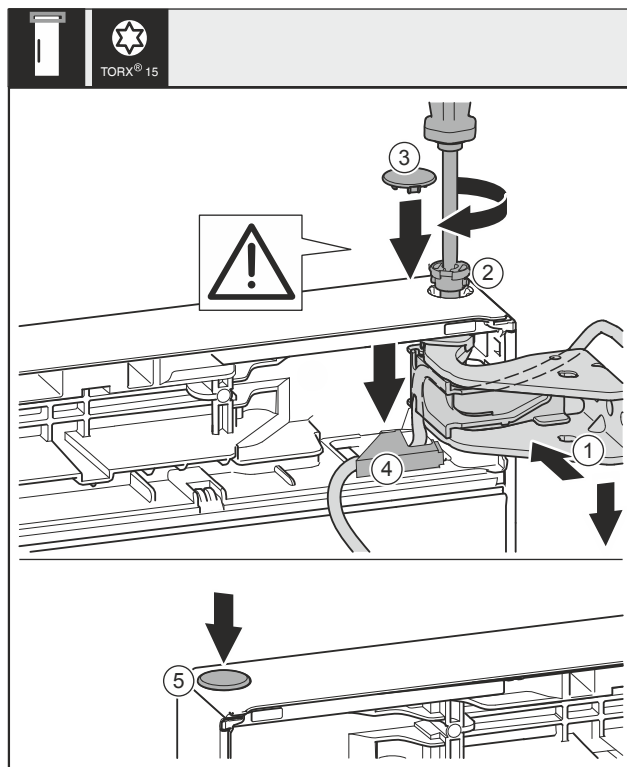

Fig. 30
- Align the top door with the opening in the swap bearing block Fig. 30 (1).
- Insert the bolt Fig. 30 (2) and use screwdriver to tighten it.
- Fit the safety cover to secure the door: Insert the safety cover Fig. 30 (3) and check whether the door is resting on it. Otherwise, insert the bolt fully.
- Insert the cover Fig. 30 (4) and push down until it engages.
- Insert the plug Fig. 30 (5).